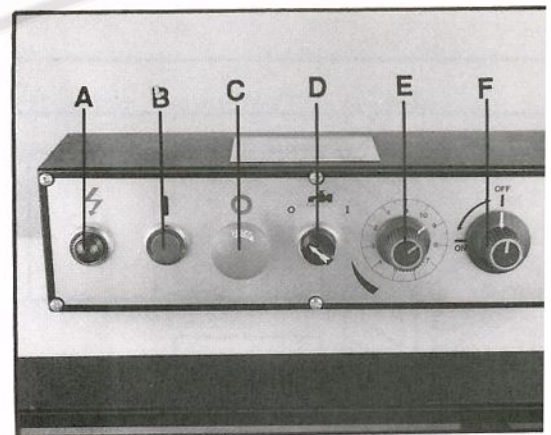

Fig. 2
Controls - Figure 2 & 3
2. Turn hydraulic valve to on (F, Fig. 2)
3. Turn cutting pressure control valve (E, Fig. 2) counter-clockwise until it stops.